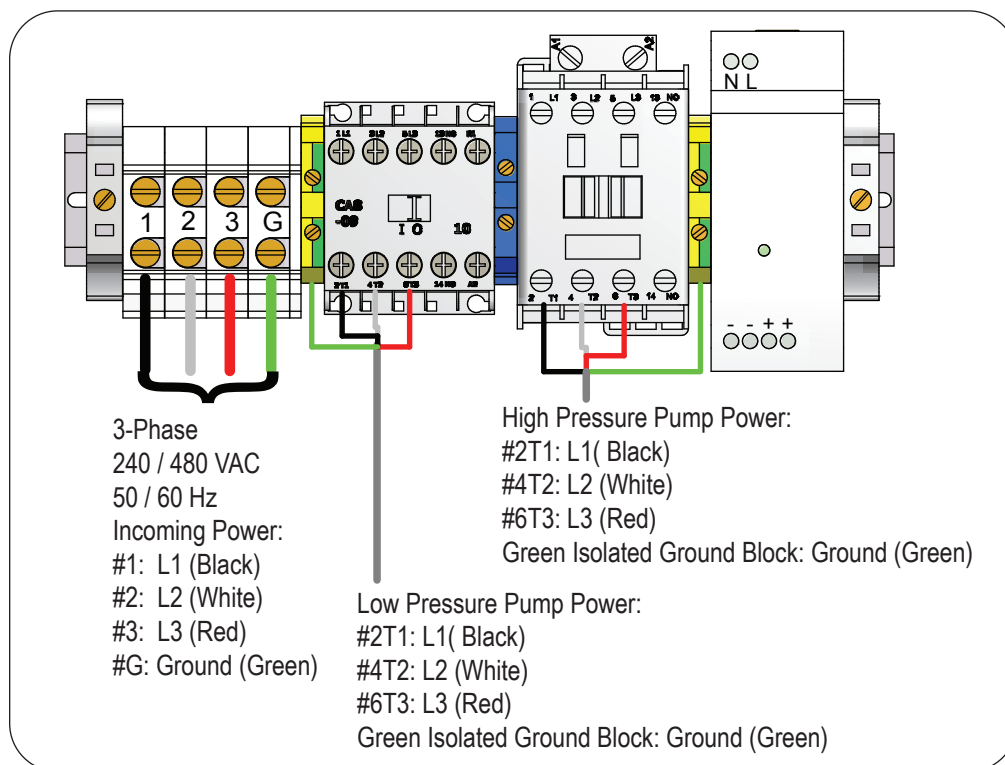
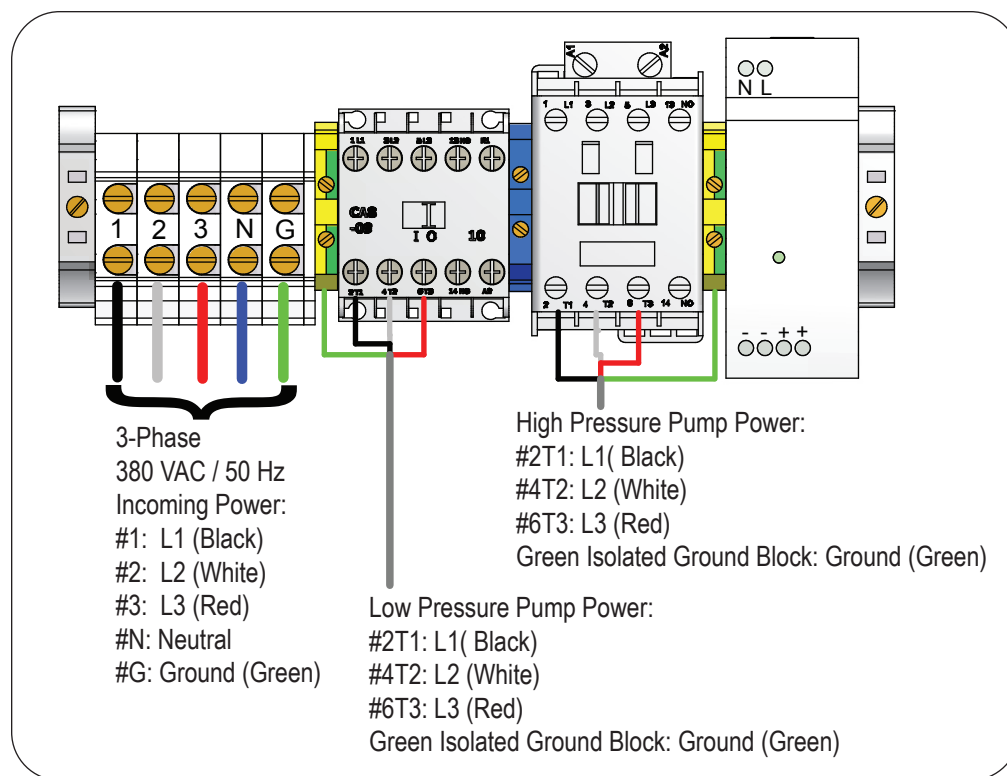

Figure 22: Wiring at the Connector Block (Three Phase 60 Hz)
Figure 23: Wiring at the Connector Block (Three Phase 50 Hz)
For three phase power (50 or 60 Hz), attach the wires to terminals #2T1, #4T2, and #6T3 of the LPP contactor, and #G to the green isolated ground block. See *Figure 22* or *Figure 23* on page 56.
For three phase power (50 or 60 Hz), use terminals #2T1, #4T2 and #6T3 on the HPP contactor, and #G on the green isolated ground block. See Figure 22 or Figure 23 on page 56.
- #1, #2, #3, and #G for three phase 60 Hz power (*Figure 22 on page 55*)
- #1, #2, #3, #N, #G for three phase 50 Hz power (*Figure 23 on page 56*)